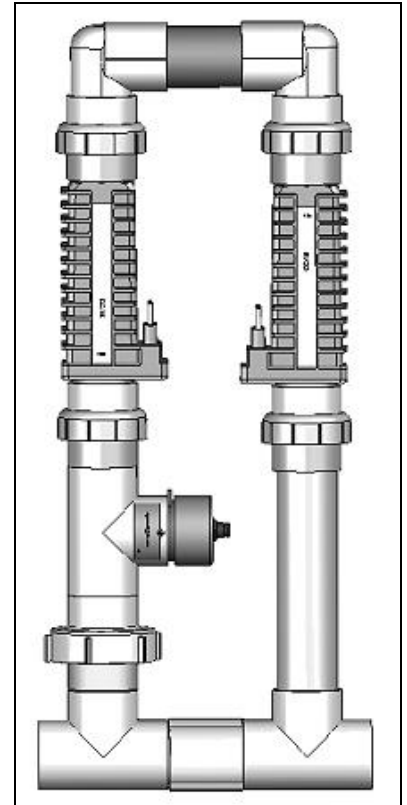

Figure 12
2. Ensure the union o-rings are in place; then place the cell into the manifold with cell pins pointed upward. See Figure 12.
3. If necessary, use water to rinse away any dirt and debris on the union and then tighten the unions by hand for a watertight seal. The cell cable has three (3) electrical contact pins. Align the cable and terminals and connect them together.